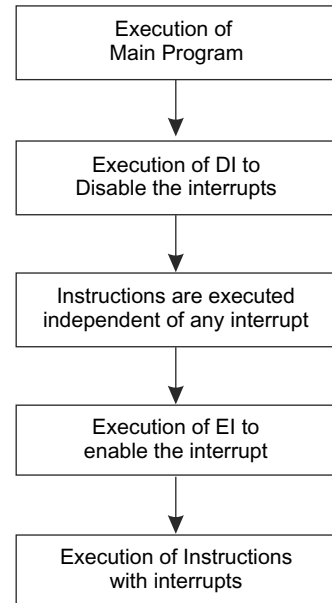

Fig. 8.36 Application of EI and DI
The 8085 microprocessor has two additional instructions such as Enable Interrupt (EI) and Disable Interrupt (DI). These instructions can enable or disable all the interrupts except TRAP interrupt. The interrupt enable flip-flop is manipulated using the EI/DI instructions. Actually, EI and DI instruction generates internally EI and DI signals. The connections of EI and DI are depicted in Fig. 8.30. The EI signal sets the SR flip-flop and generates an interrupt output signal. The interrupt enable signal enables the AND gates at the RST 7.5, RST 6.5 and RST 5.5 inputs. The DI signal can reset the SR flip-flop and makes the interrupt enable output becomes low. Then all maskable interrupts are disabled. The application of EI and DI is shown in Fig. 8.36.